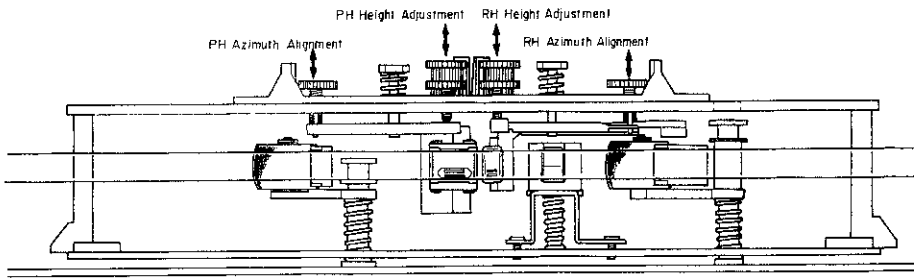

Fig. 2.15
(1) Playback Head Height Adjustment and Azimuth Alignment Refer to Fig. 2.15.